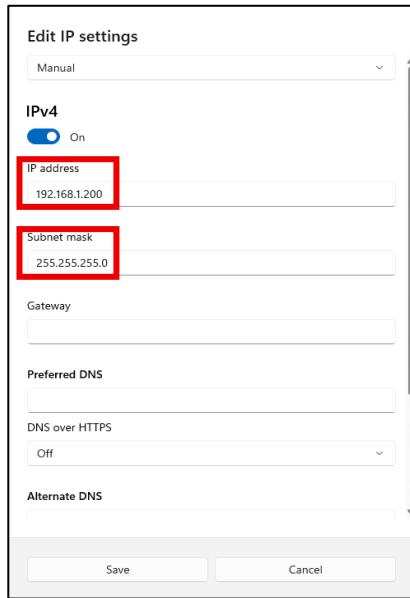

Figure 3: Network setting W3
V) Additional settings will pop-up, fill up IP address and Subnet mask as shown below and click on **Save button**. Note: last number of IP addresses should be different from IP addresses of device. Example: If device IP is **192.168.1.100** you need to use different, for example **192.168.1.200**, subnet mask is always **255.255.255.0** see bellow Figure 3: Network setting W3